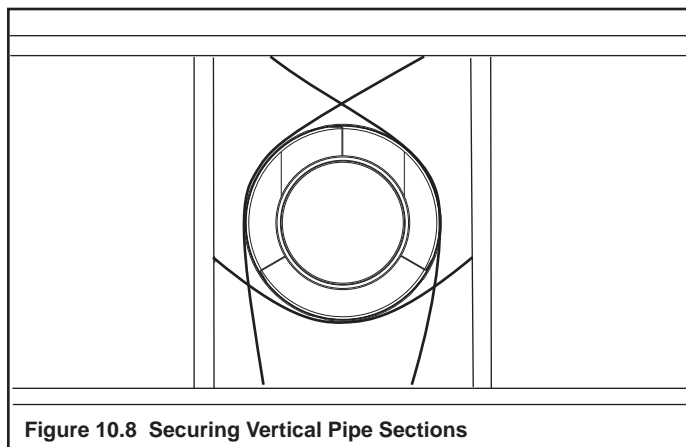

Figure 10.8 Securing Vertical Pipe Sections
- Vent support or plumber's strap (spaced 120° apart) may be used for support. See Figures 10.8 and 10.9.